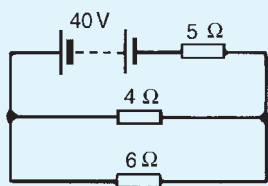

Figure 13.14
4. Use Kirchhoff's laws to find the current flowing in the $6\ \Omega$ resistor of Fig. 13.14 and the power dissipated in the $4\ \Omega$ resistor.